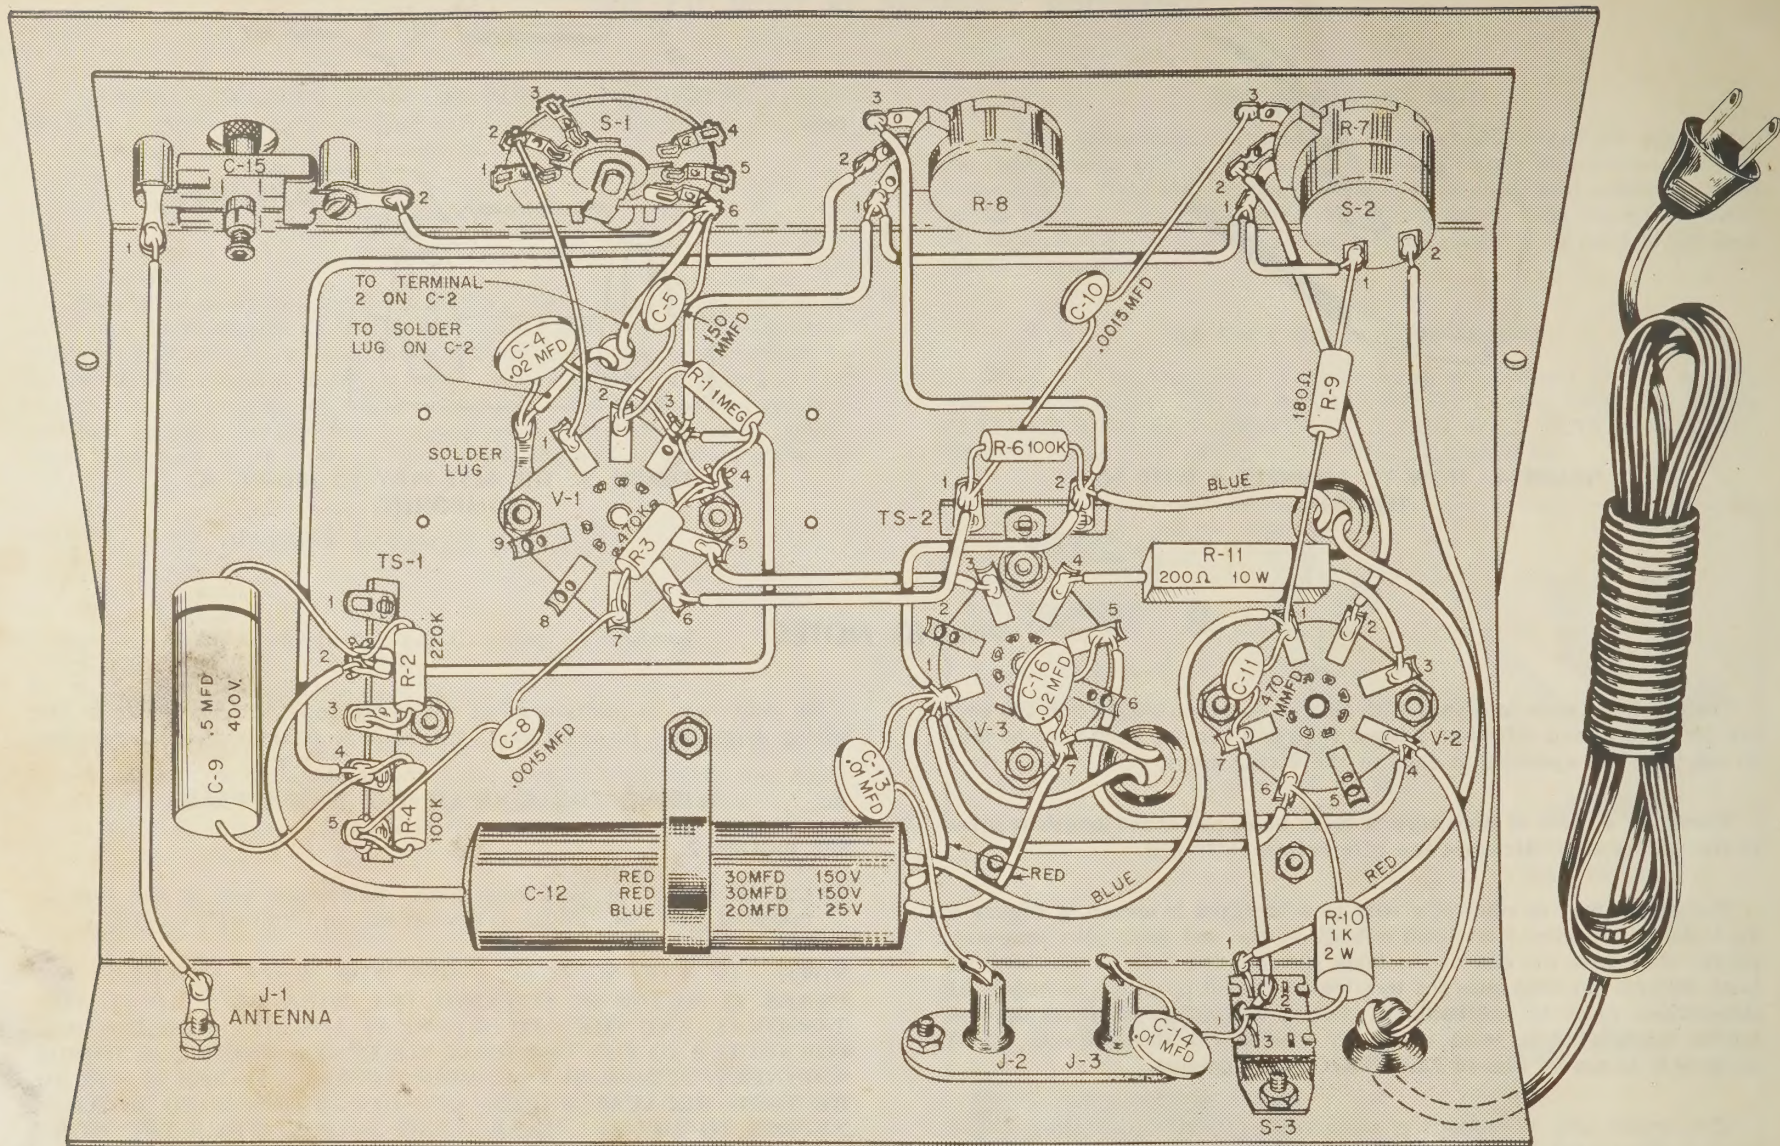

FIGURE 6. FIRST CHASSIS WIRING VIEW
TURN THE CHASSIS UPSIDE DOWN AND REFER TO FIGURE 6.
- ☒ Connect, but do not solder, one end of an orange wire to terminal 6 of S-1. Solder the other end to the right solder lug on C-15 (labeled 2 in Figure 6).
- ☒ Bend the left solder lug (labeled 1 in Figure 6) as shown. Solder one end of a yellow wire to terminal 1 of C-15 (the left solder lug). Solder the other end to the solder lug on the antenna binding post (J-1).